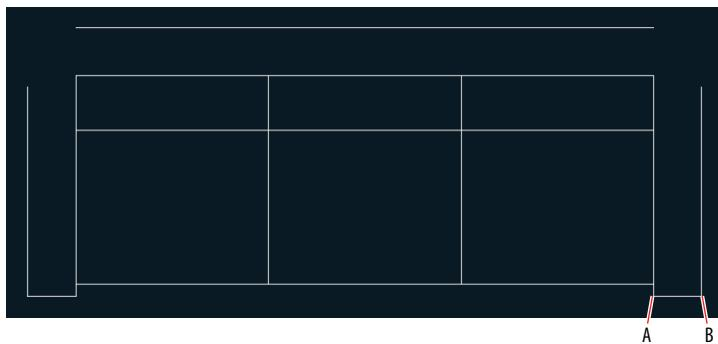

FIGURE 9.5 Offsetting the back of the sofa a distance equal to the thickness of the armrests
10. Click the Offset tool on the Modify panel. Click points A and B in Figure 9.5 to set the offset distance. Select the back line of the sofa, and then click above it to offset another line.